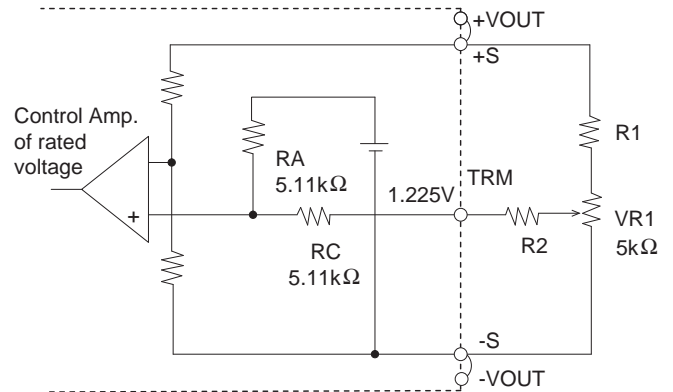

Fig.4.4 Output voltage control circuit
(1) Output voltage adjusting
- By connecting the external potentiometer (VR1) and resistors (R1, R2), output voltage becomes adjustable, as shown in Fig.4.4, recommended external parts are shown in Table 4.2.